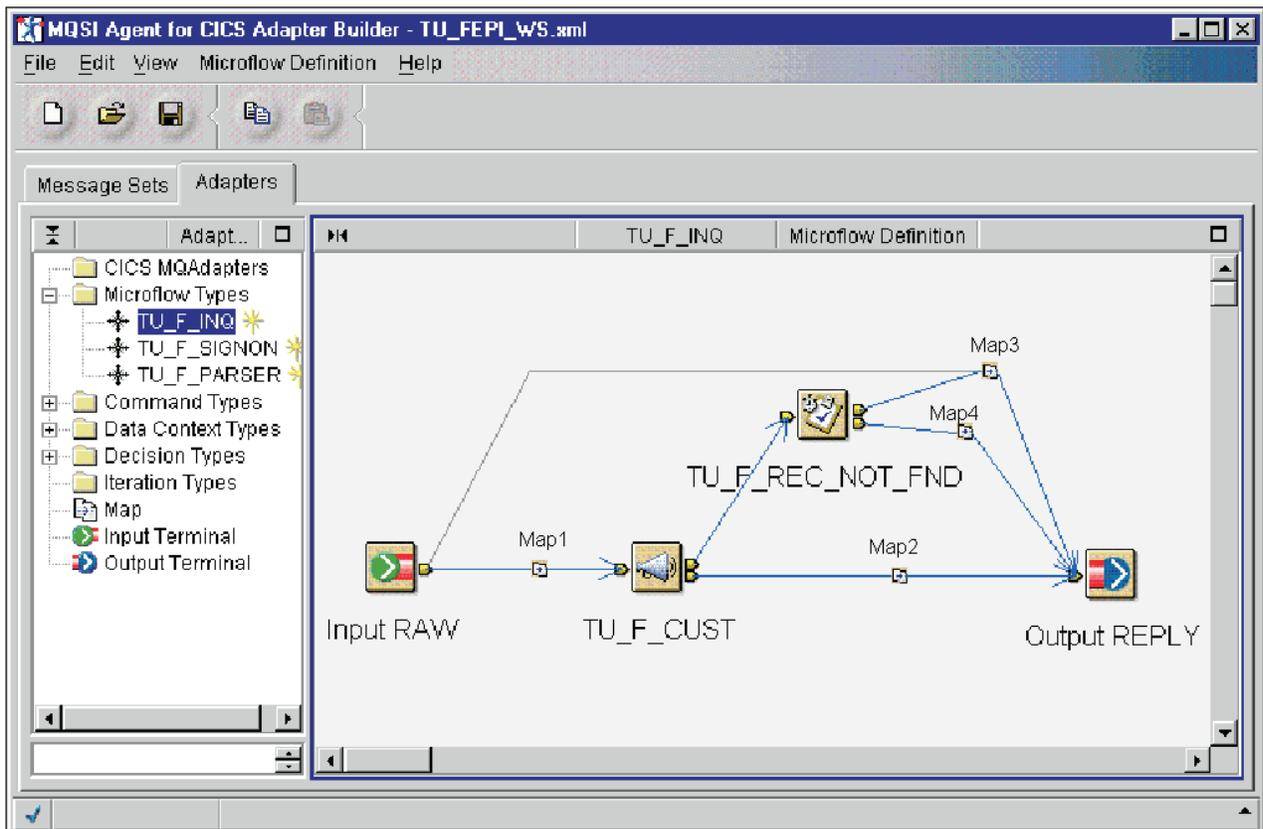

Figure 131. TU\_F\_INQ
The subflow processing determines whether or not the requested customer record is found. You will add the nodes shown in Figure 131 on page 171.
- 1) Right click on the Input RAW node and select **Connect > Out**. Move the connection line to the TU\_F\_CUST node and left click. This adds a control connection and a map (Map1 node) between the two nodes. Refer to Figure 131 on page 171.